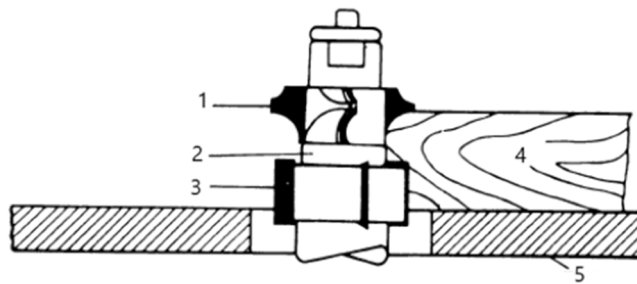

Figure 9
3. The collar between cutters method, shown in figure 9, has both the advantages and disadvantages of the first two methods. This method is used primarily where both edges of the work are to be shaped.